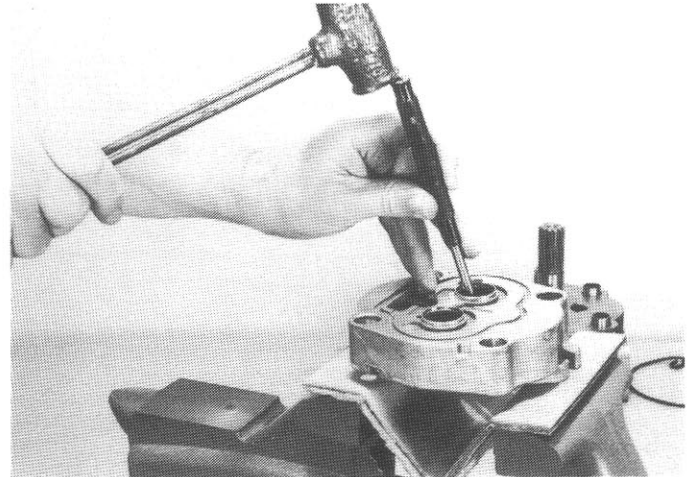

Fig. 4
7. Slide a punch of appropriate size through the bearing and against the seals metal casing. Hold the punch away from the bearings and drive the seal out without damaging seal bore or bearing. Move the punch around the seal as it is driven out. Do not allow the punch to rest against the seal bore or bearing while driving the seal out. (Fig.4)